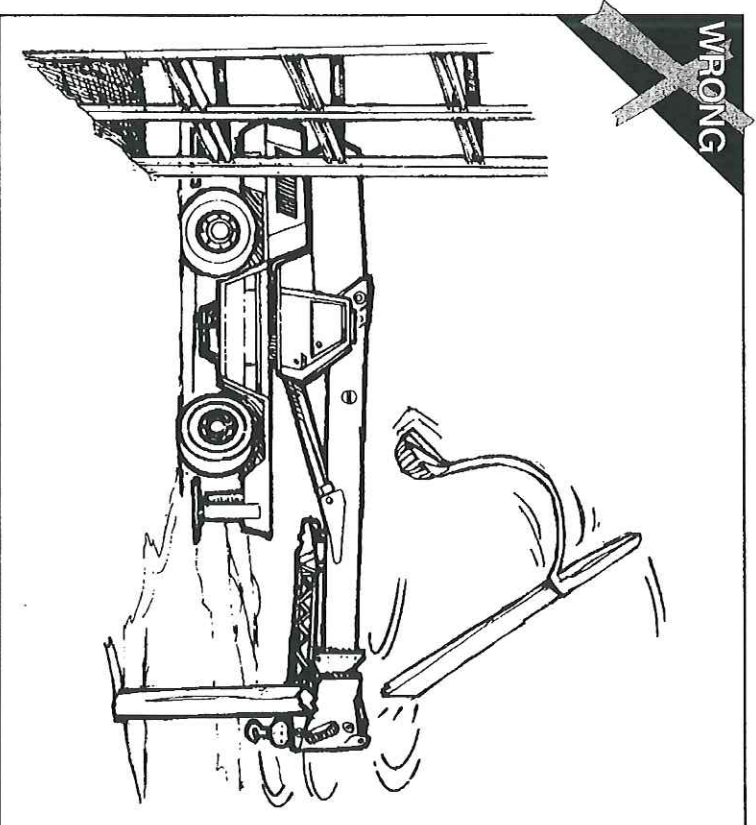

FIG. 52
- When **cornering**, be aware and allow for boom overhang and structure clearances. (FIG. 52)